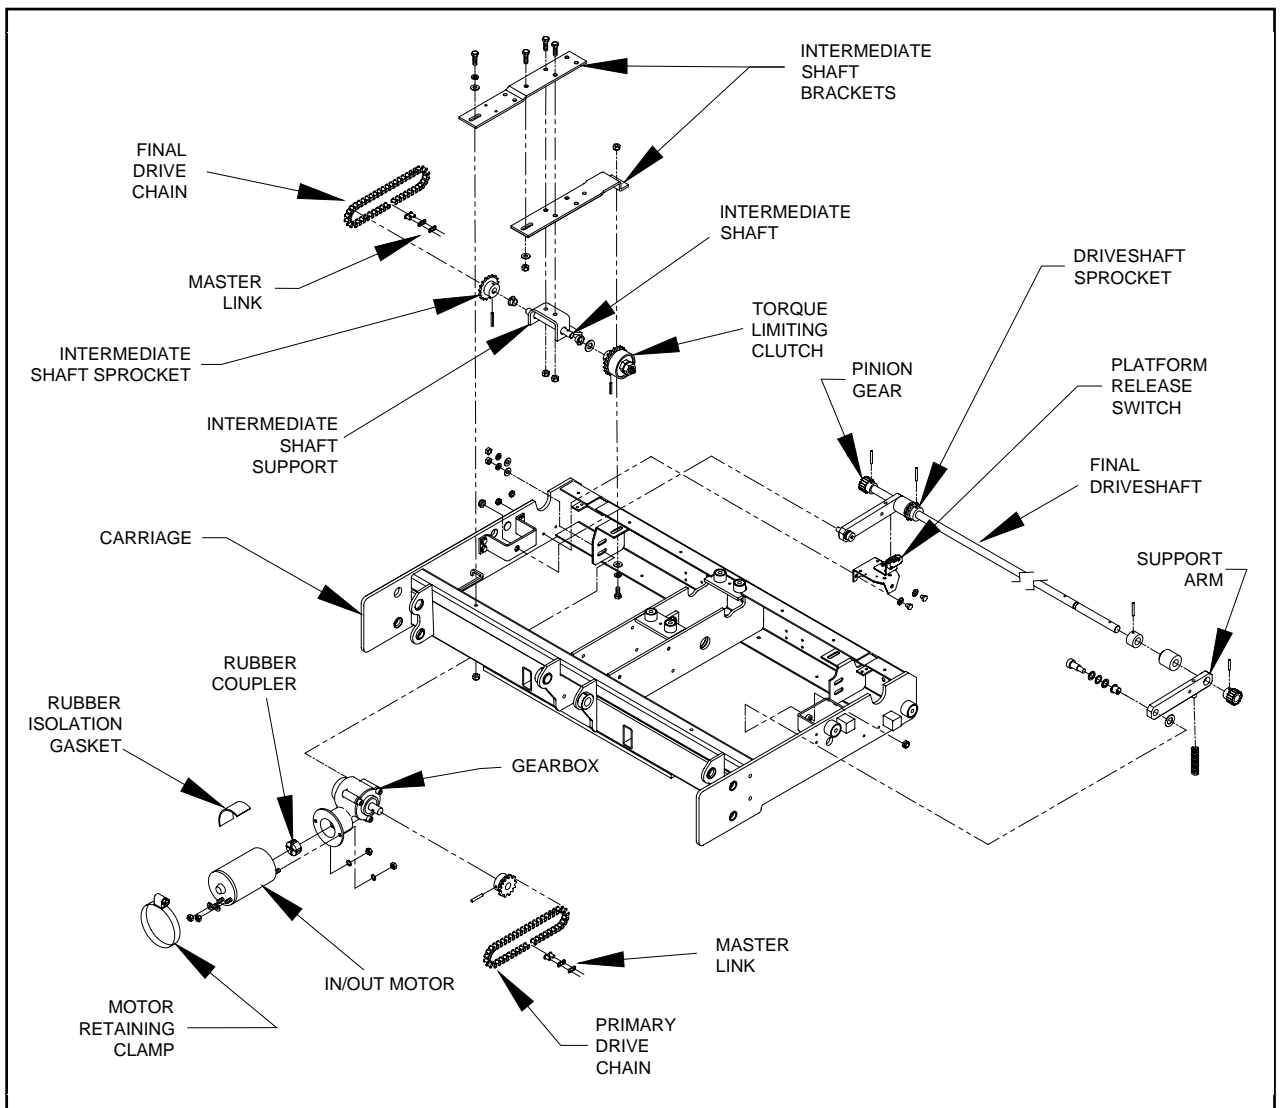

FIGURE 4-17: DEPLOYMENT SYSTEM COMPONENTS
Refer to **Figure 4-17**. The deployment system propels the traveling frame (carriage, lifting frame, and platform) out of enclosure, or pulls it back in. This section describes major deployment system components, including how they operate, how to remove and replace them, and how to perform adjustments.
- 6) Refer to **Figure 4-17**. Loosen two nuts fastening the gearbox to carriage.
- 4) Refer to **Figure 4-17**. Position master link at bottom-center of its travel by moving carriage assembly forward or backward (use the DEPLOY and STOW functions).
- 1) Refer to **Figure 4-17**. Verify the two screws fastening the intermediate shaft mounting bracket to carriage are loose.
- 1) Refer to **Figure 4-17**. Loosen motor retaining clamp that fastens the gearmotor to gearmotor support.
- 3) Refer to **Figure 4-17**. Loosen the two nuts fastening gearmotor assembly to carriage.
- 2) Refer to **Figure 4-17**. Loosen motor retaining clamp.